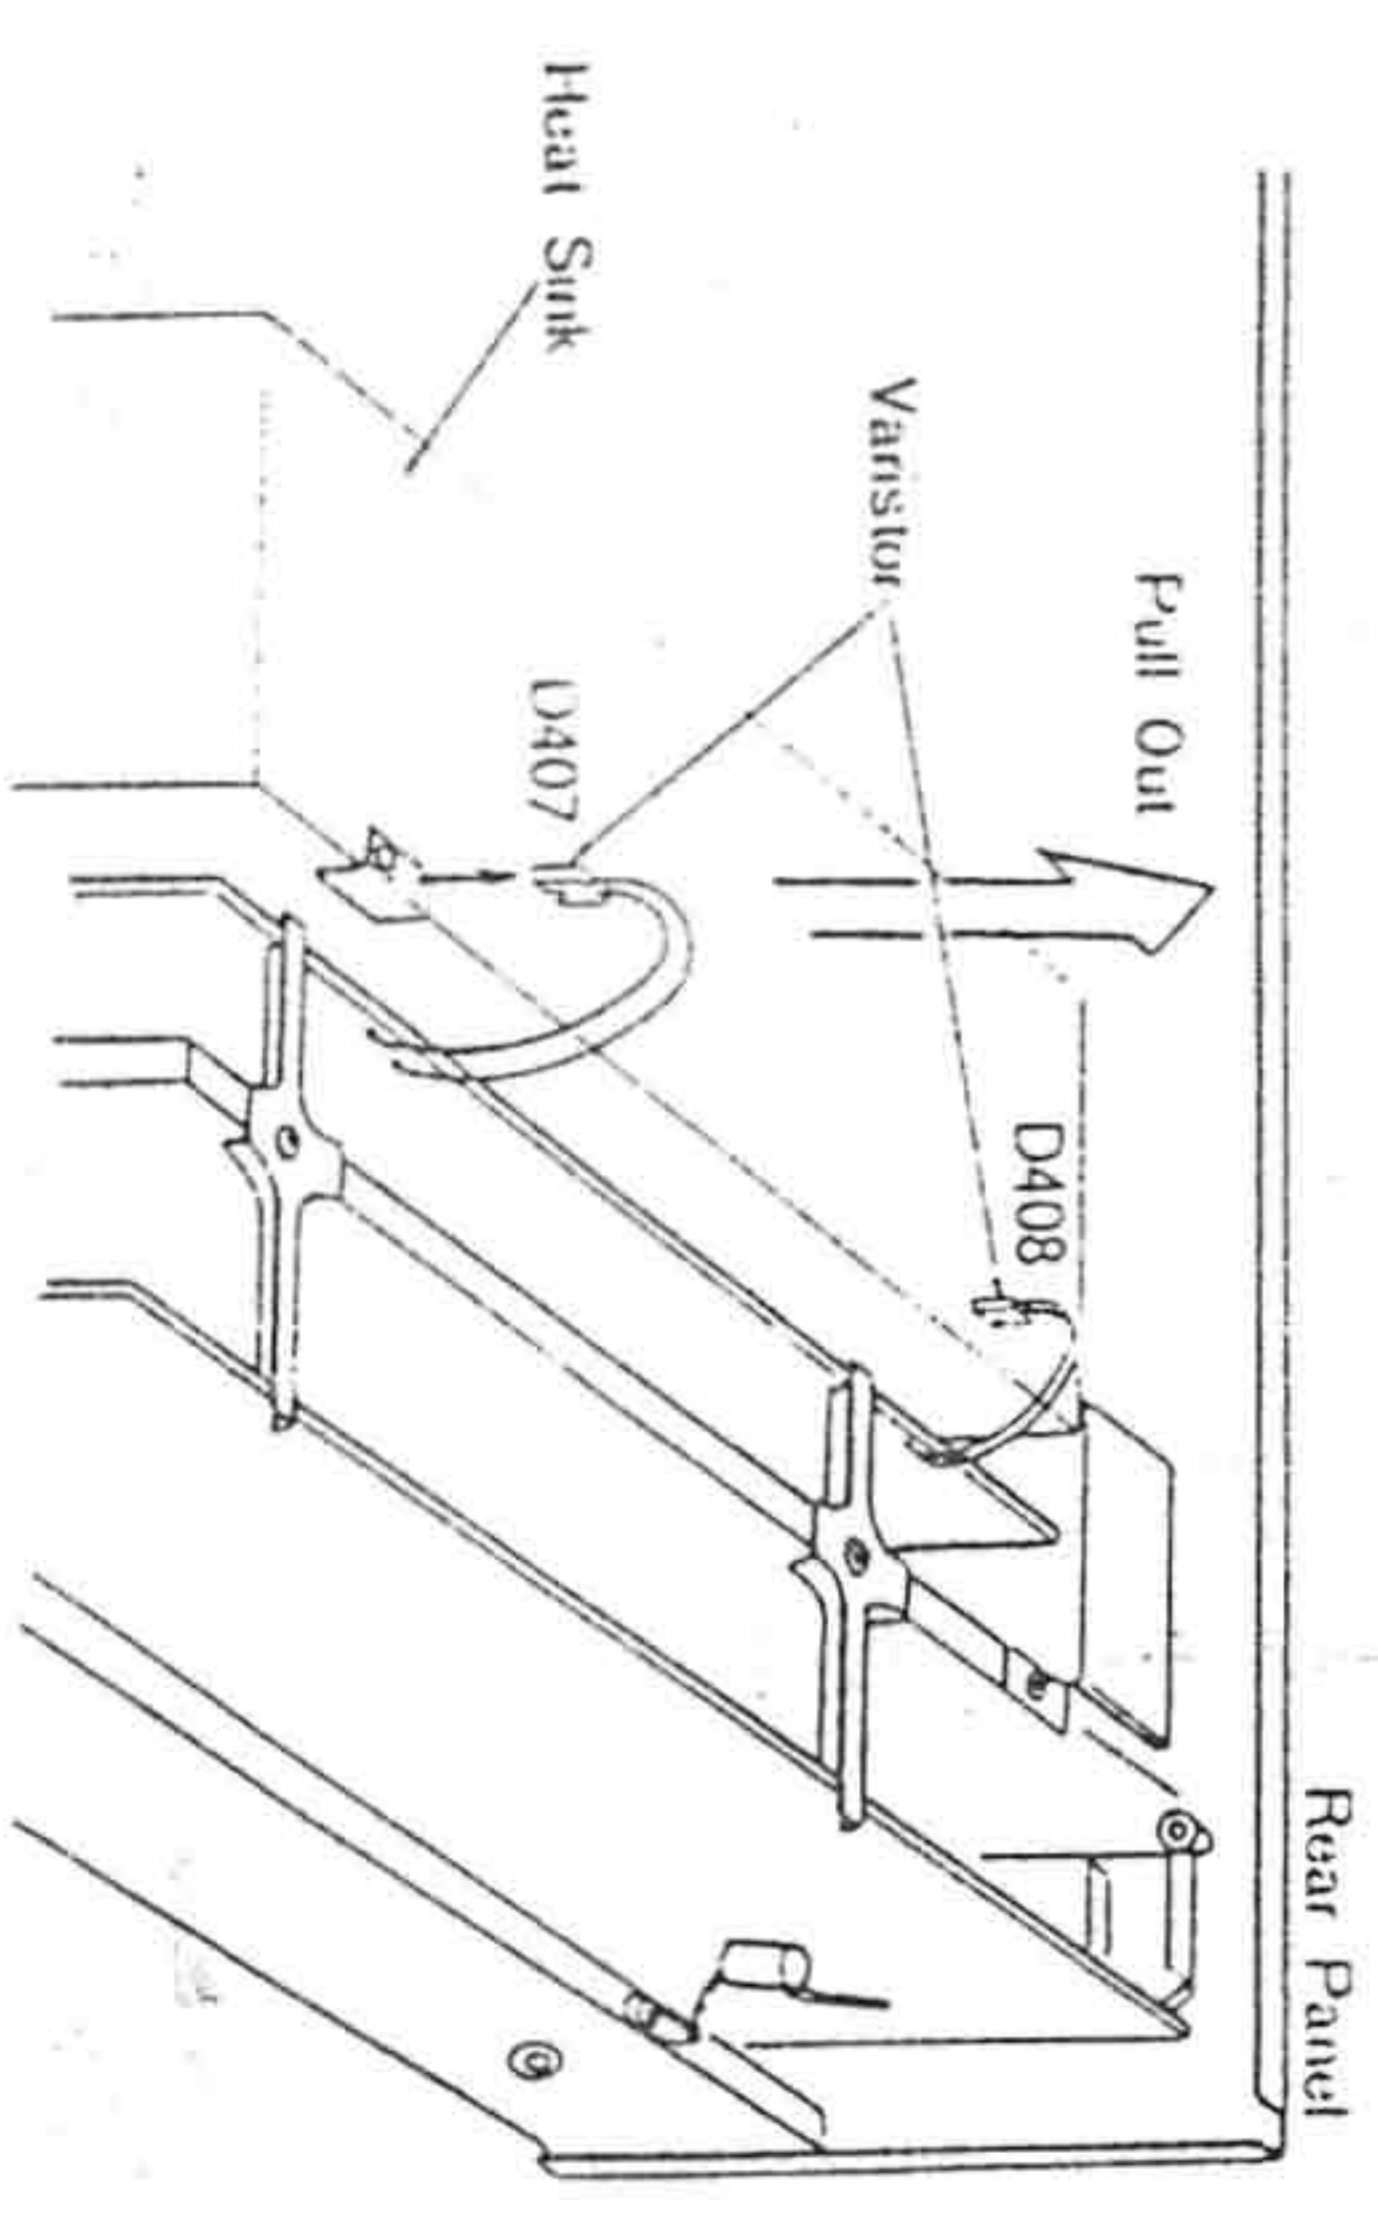

Fig. 7
3. Pull out varistors (D407, D408) for thermal compensation which is inserted into the heat sink. (Fig. 7)